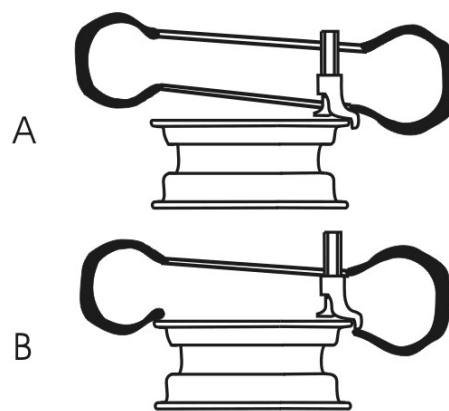

Fig.23
- Place the bead on the edge of the mounting head(H) and under the tongue(Fig.23)